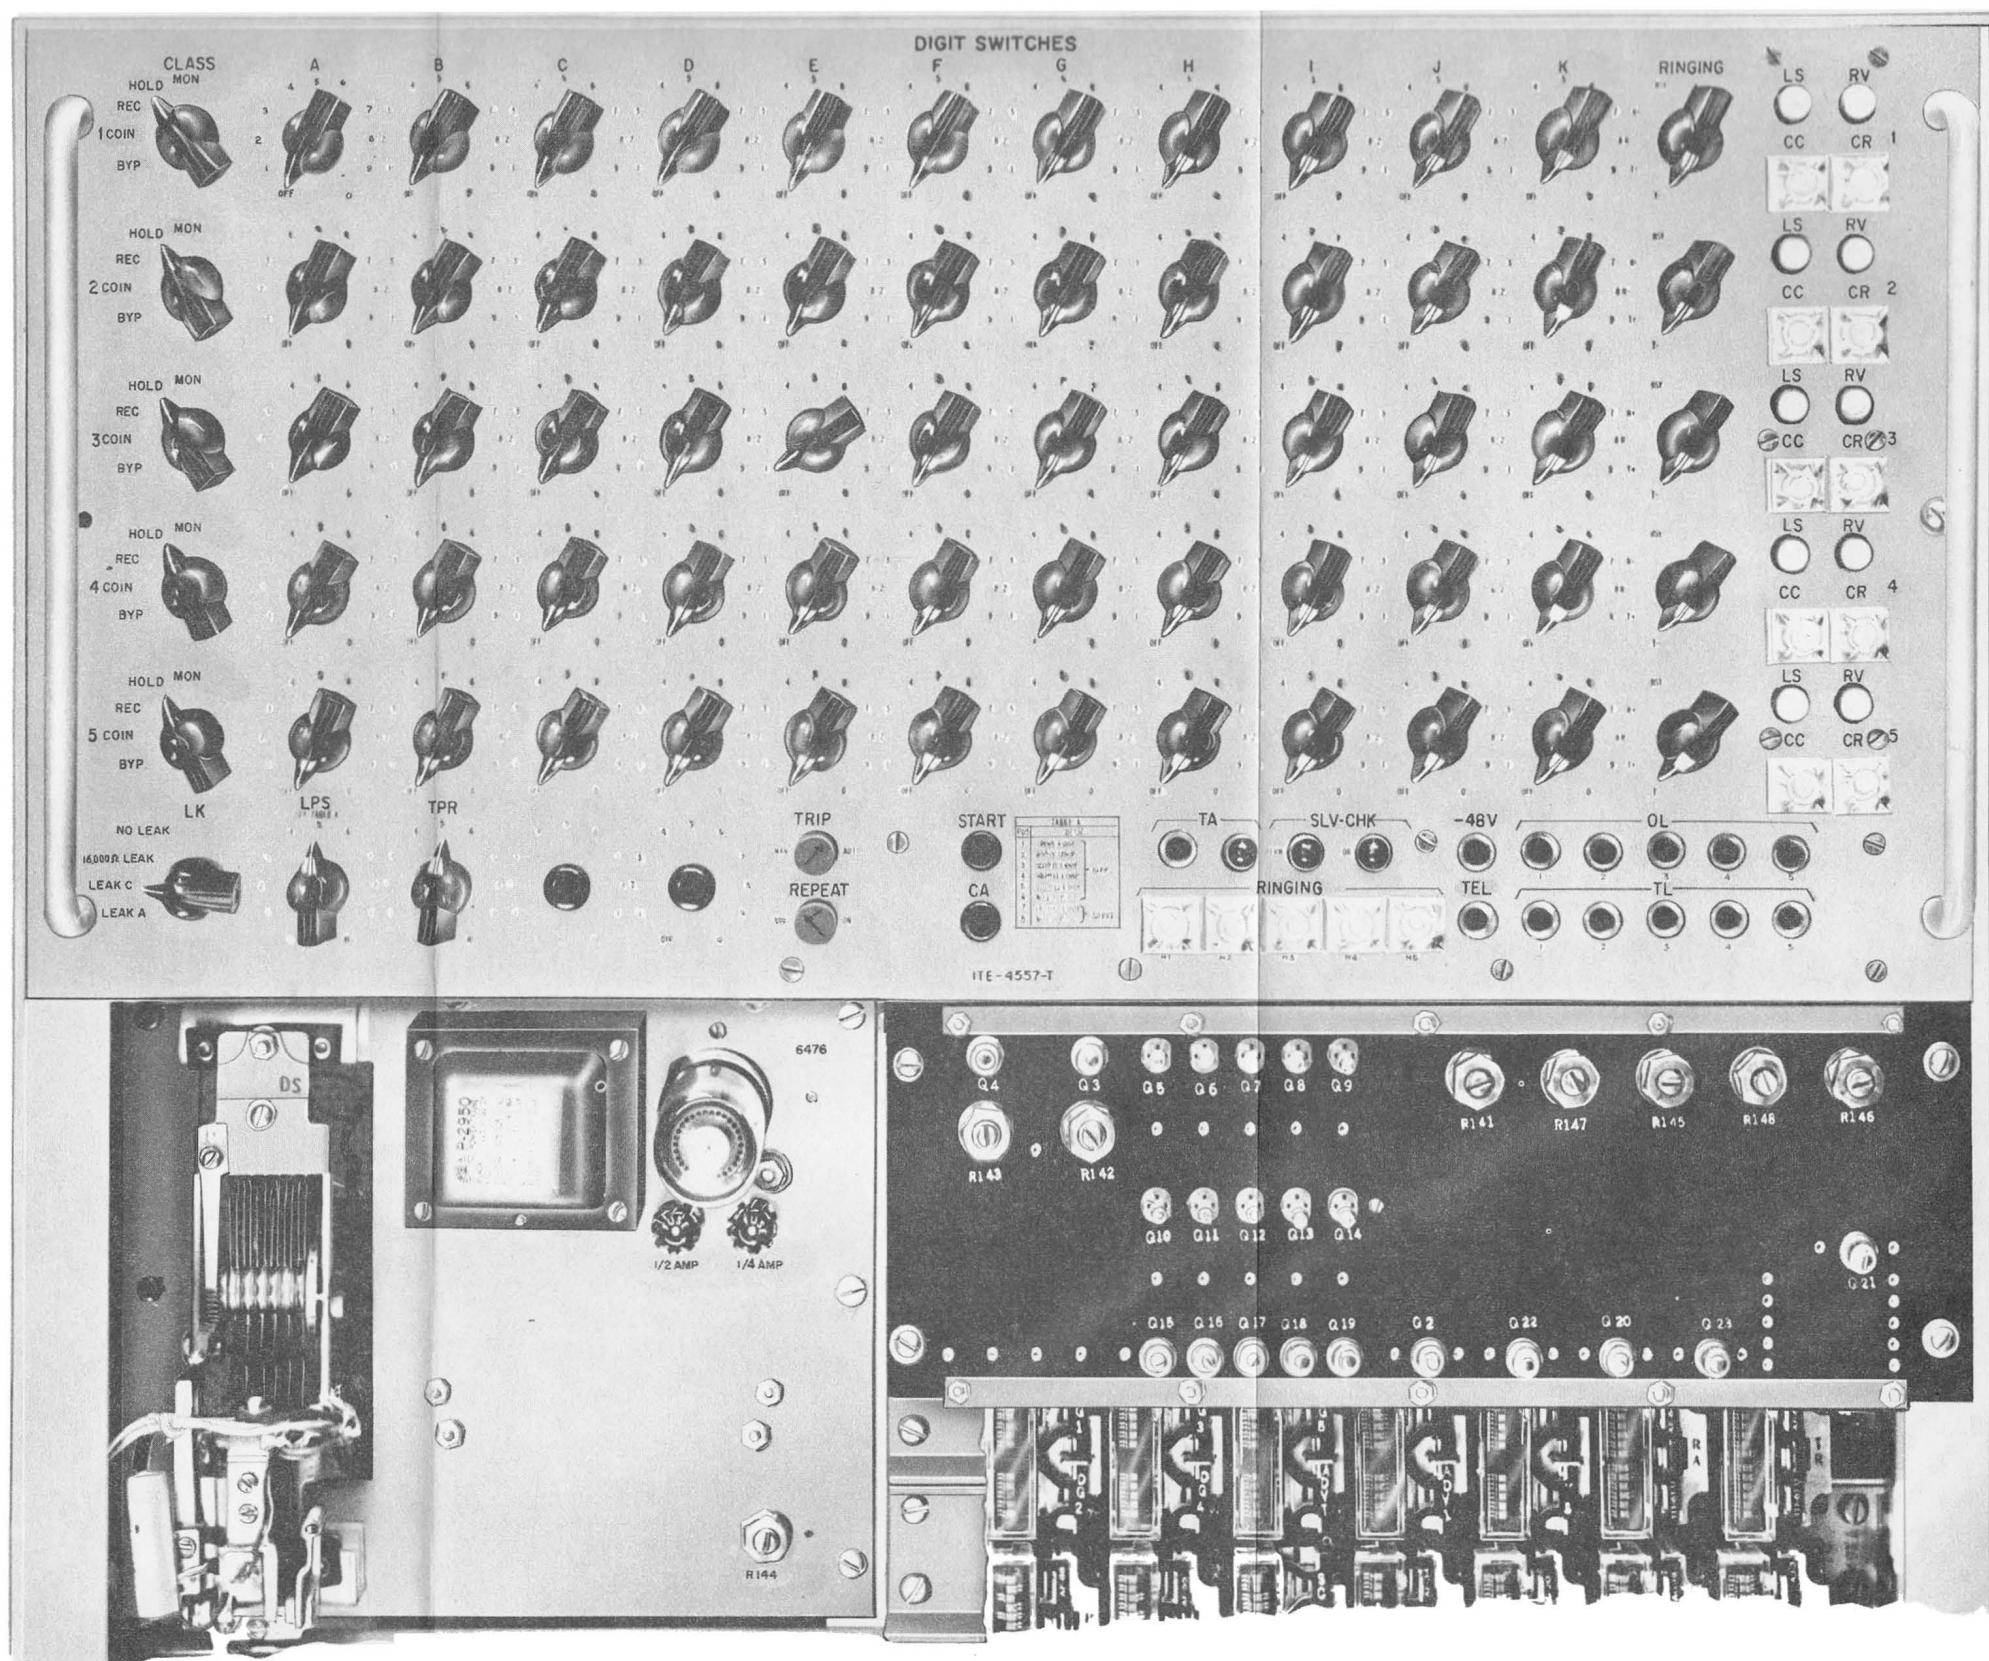

Fig. 6 – ITE 4557-T Control Panel
1.13 Eight potentiometers are provided which control the various functions of the test set. The potentiometers and the functions with which they are associated are as follows (see Fig. 6) :